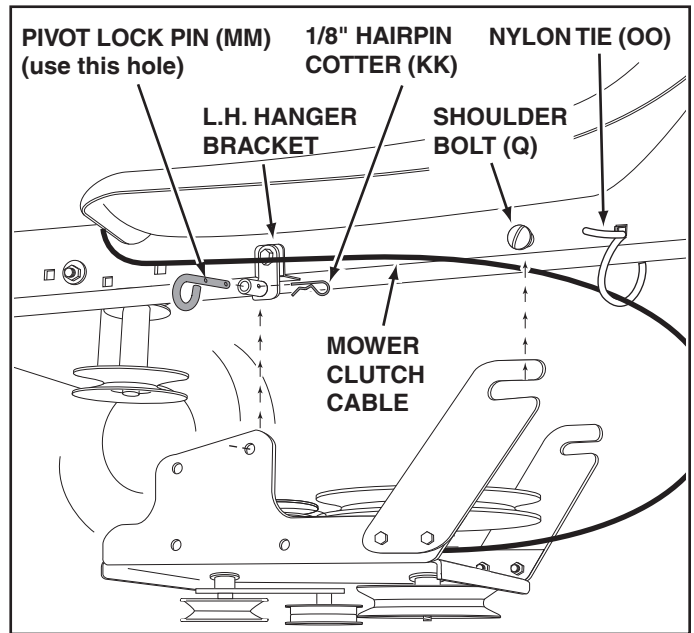

FIGURE 12 VIEWED FROM LEFT SIDE
STEP 12: (SEE FIGURE 12)
- Attach the clutch/idler assembly to the tractor frame. Hook the notched suspension arms onto the two shoulder bolts (Q) assembled to the outside of the tractor frame. Lift the front of the assembly and attach it to the R.H. and L.H. hanger brackets using two pivot lock pins (MM) and 1/8" hairpin cotters (KK).
- Loosely attach the mower clutch cable to the left side of the tractor frame with a nylon tie (OO). **Do not** pull the nylon tie completely tight. The cable may need to be removed from the nylon tie when using the mower deck.